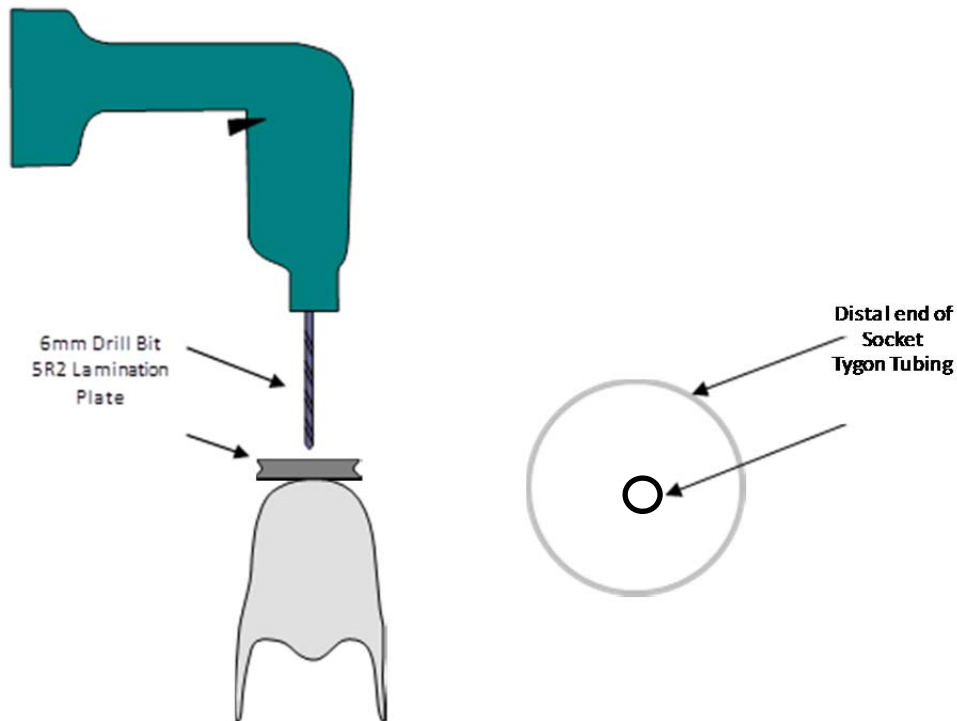

Figure 3
4. Drill a 6mm hole through the center hole of the 5R2 plate up into and through the socket (Figure 3).